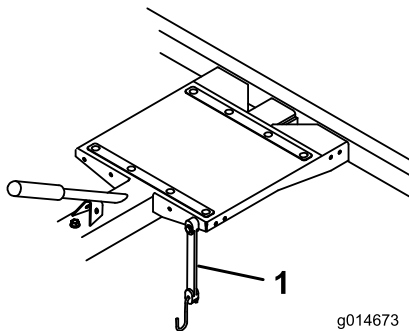

Figure 15
4. During transport, use the bungee strap to secure the greens mower to the trailer (Figure 15). You can move the bungee strap to different mounting holes to accommodate different mowers.